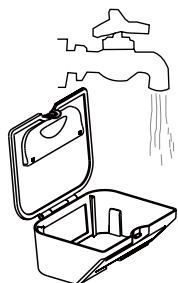

Fig.5
2. The dust bin and the filter screen can be rinsed with water (Fig. 5).